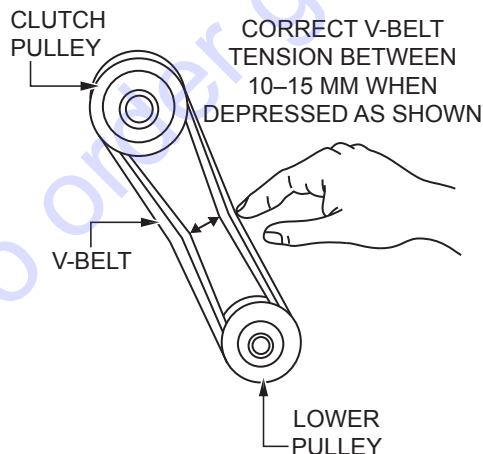

**Figure 27. V-Belt Inspection**
1. Inspect the V-belt (Figure 27) to determine if it is frayed, peeling, full of tiny cracks, has pieces of rubber missing, or is otherwise damaged.
2. Inspect the V-belt (Figure 27) to determine if it is oil-soaked or glazed (a hard, shiny appearance on the sides of the belt). Either of these conditions can cause overheating of the belt, which may weaken the belt and increase the possibility of it breaking.